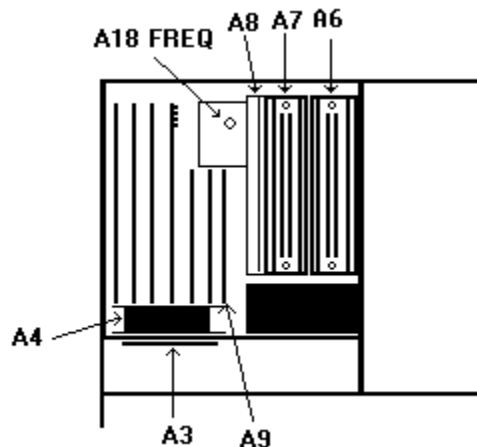

Figure 1. Test instrument - top view.
(1) Connect time/frequency workstation **OUTPUT 1 MHz** to frequency difference meter **REF INPUT**.
(2) Connect TI **FREQ STD OUTPUT 10 MHz** (rear panel) to frequency difference meter **SIG INPUT**.
(3) Adjust **A18 FREQ ADJ** (fig. 1) for minimum difference indication on frequency difference meter.